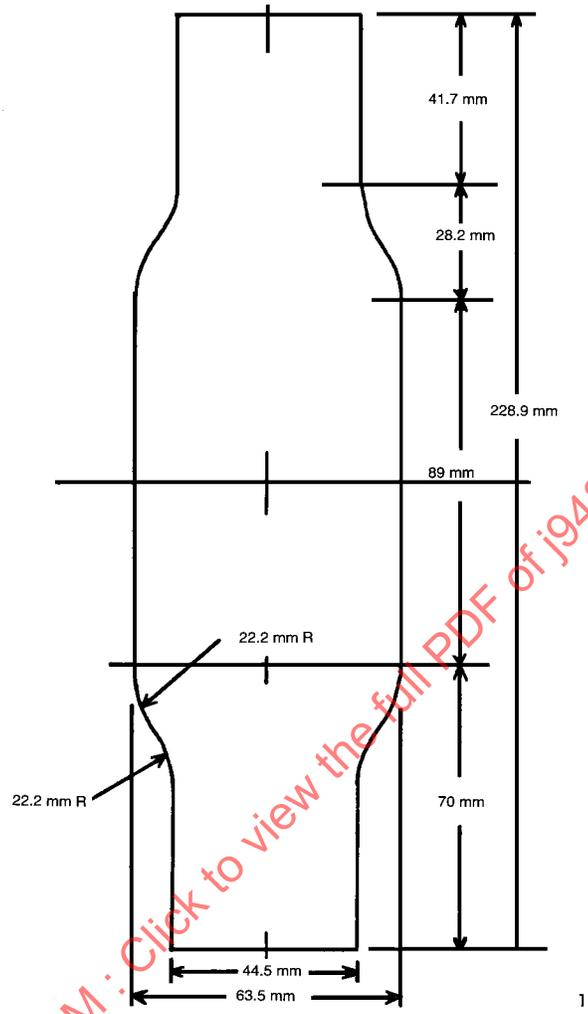

FIGURE 1—TEST METHOD
**4.2 Test Specimens**—Test specimens 63.5 x 230 mm are prepared to template (see Figure 1) size in both warp and fill directions. Condition the test specimens for a minimum of 16 h at 21 °C ± 2 °C and 50% ± 5% relative humidity. Unless otherwise specified, samples shall be taken no nearer the selvage edge than one tenth (1/10) the width of the material. All materials other than rigid, nonstretch materials, shall have the back of the test specimen completely covered with 76 mm masking tape.